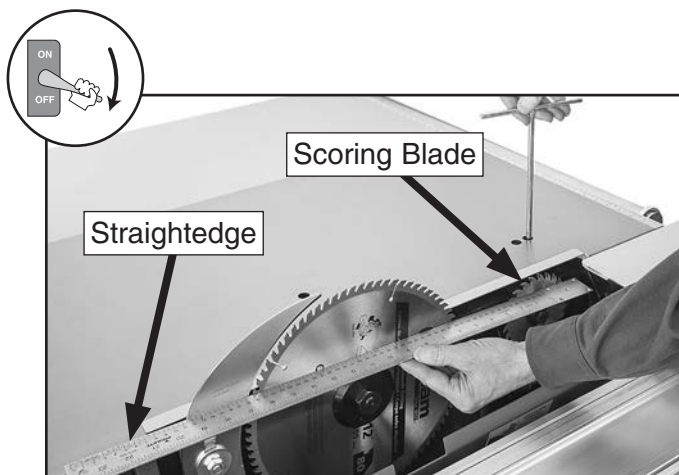

Figure 90. Adjusting horizontal position of scoring blade.
- b. Inserting T-handle wrench into right hole shown in **Figure 90**, engaging it with adjustment bolt under table, then rotating wrench to align bodies of blades.